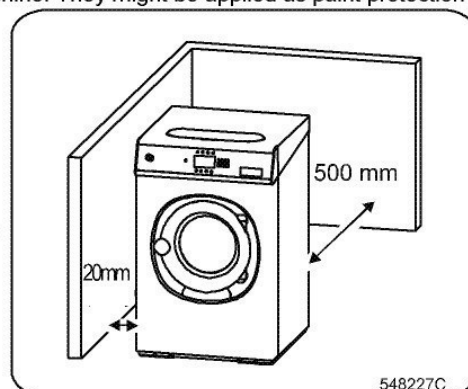

Figure 9 – Rigid-mount machines
- In order to make installation and servicing the machine easier the following clearances are recommended, see figure 9.